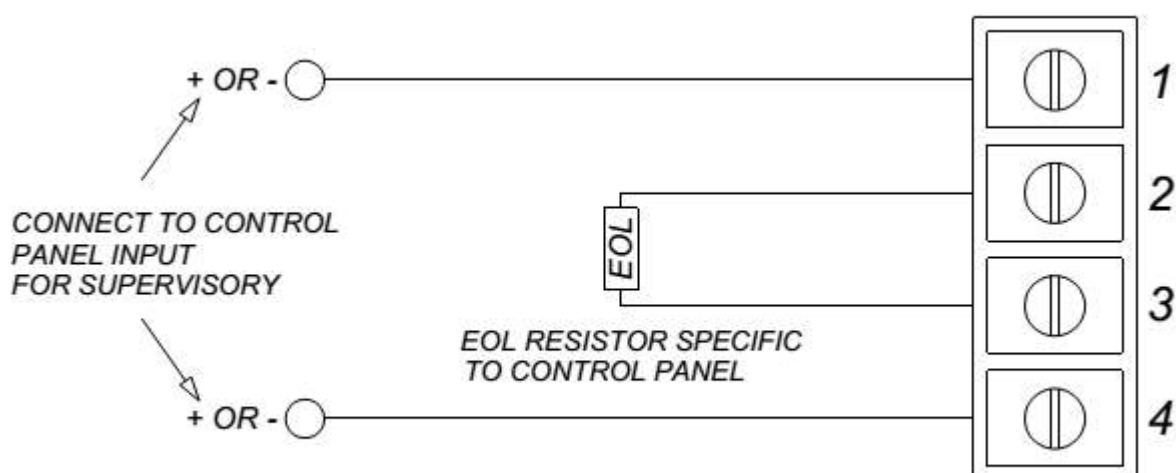

Figure 51: Wiring Diagram
- f. The end of line (EOL) resistor is fitted to the terminal block 2 & 3. At the same time, separate the two 22-14 AWG wires, strip and remove the wire covering from the ends. Insert these two wires through the ½ inch size conduit fitting into the terminal 1 & 4 for connecting to fire control panel. (See Figure 51 wiring Diagram)